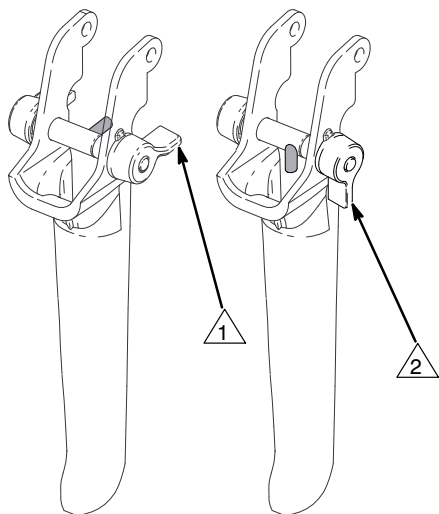

Fig. 3
When engaged, the gun safety latch prevents the gun from accidental triggering. See Fig. 3.
4. **Turn the pressure knob (64) to the minimum setting.**
5. **Disengage the gun trigger safety.** See Fig. 3, page 8.